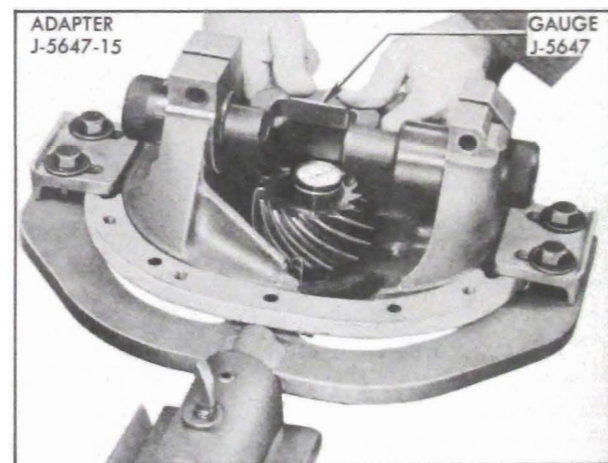

Figure 6-28—Checking Pinion Setting
8. Drive a wedge into each pedestal split and spread them just enough so that an Adapter J-5647-17 will slip in. Then place the indicator gauge in the carrier as follows: (see figure 6-28).